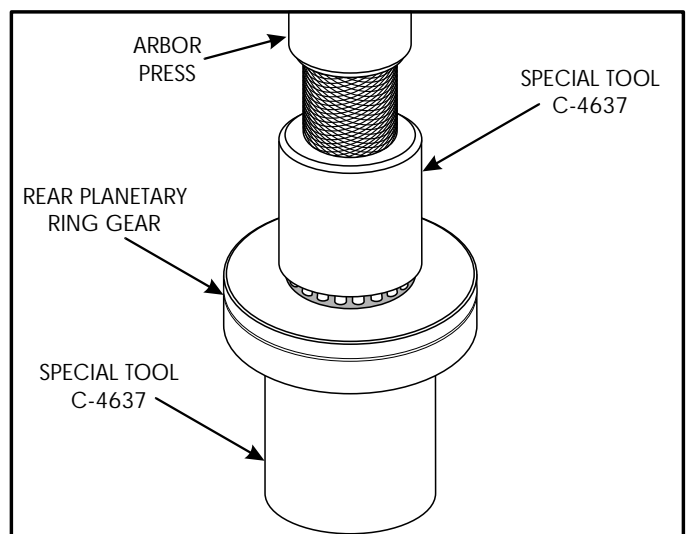

Figure 168
5. Install new bearing cone using special tool and adapters, as shown in Figure 168, with press.